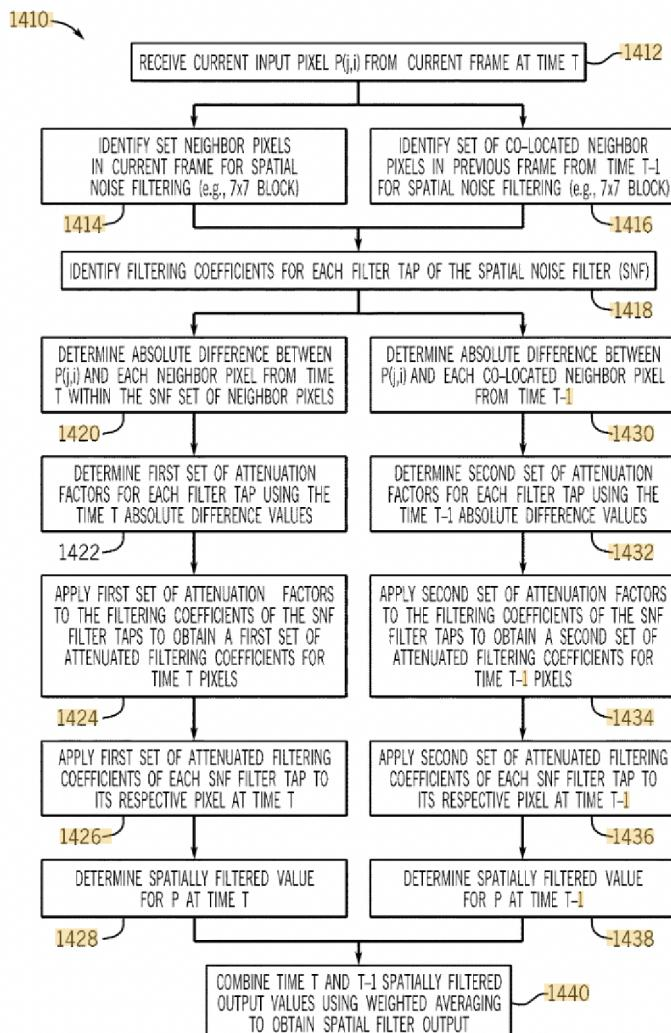

FIG. 116
- fig 116 which shows that we're doing a whole lot of different operations across the entire image to gather data for optimization of the final photo.